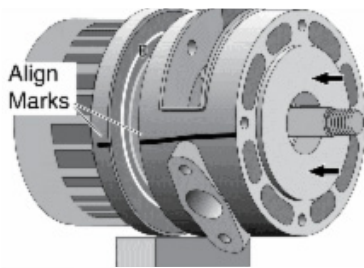

Figure 22
4. Carefully slide the adapter over the shaft (see Figure 22). Do not damage the shaft sealing surface; it is highly polished and any slight scratches or nicks will ruin it.